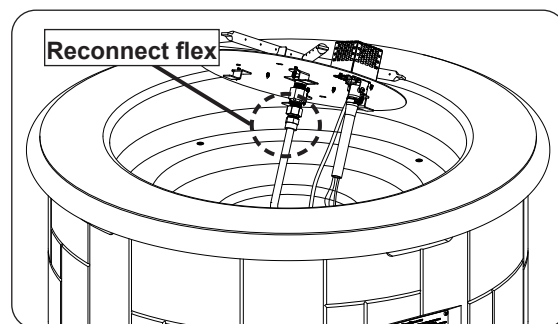

Fig. 29-2 Reconnect flex connector
1. Reconnect flex line coming from the valve to the burner assembly (see Fig. 29-2).